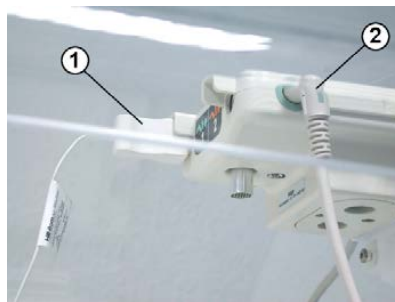

Fig. 54 Sensor module: Connectors for skin temperature sensor and scale
- 3 If necessary, disconnect the scale cable assembly from the sensor module assembly (Fig. 54/2).